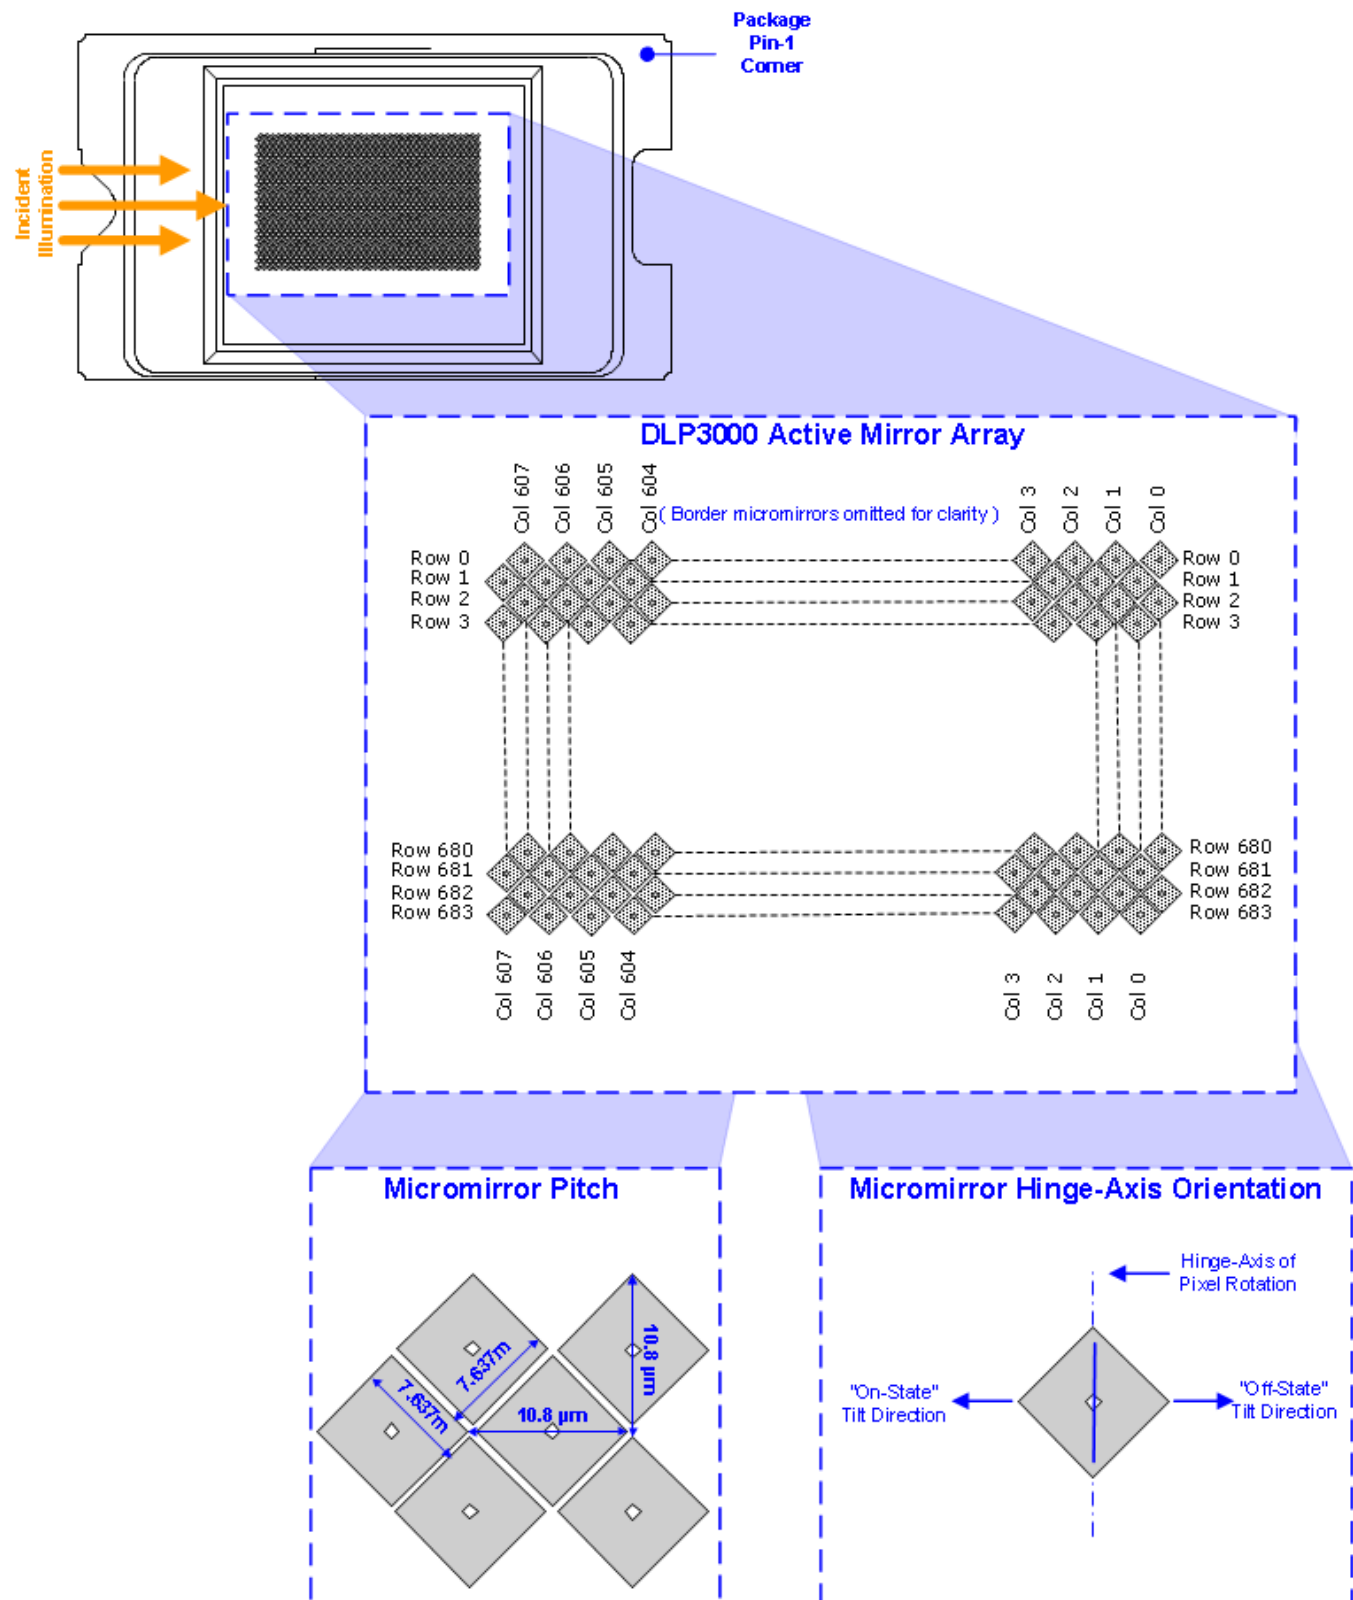
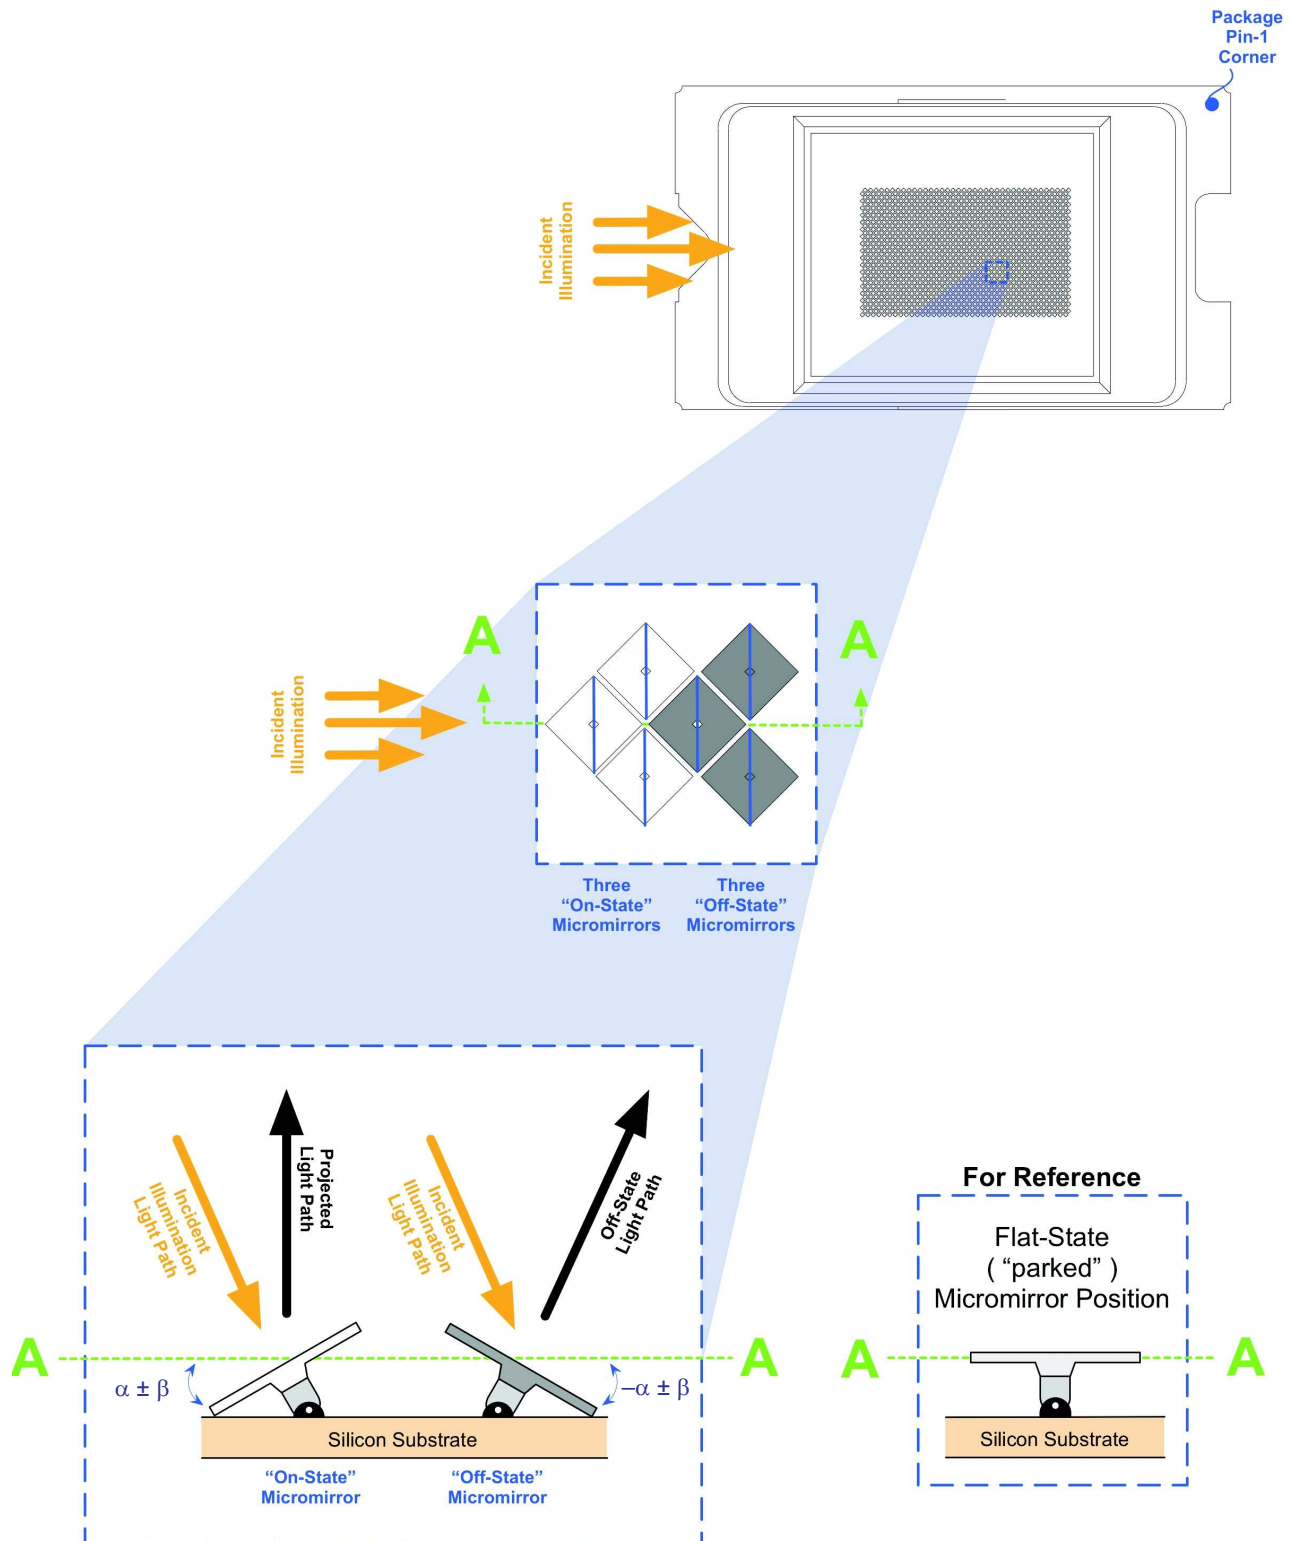

Figure 9. Micromirror Array, Pitch, and Hinge-Axis Orientation
Figure 10. Micromirror Landed Positions and Light Paths
(4) The mirrors that form the array border are hard-wired to tilt in the –12° (off) direction once power is applied to the DMD (see Figure 9 and Figure 10).
The DLP3000 is a 0.3 inch diagonal spatial light modulator which consists of an array of highly reflective aluminum micromirrors. Pixel array size and diamond grid pixel arrangement are shown in Figure 9. The DMD is an electrical input, optical output micro-electrical-mechanical system (MEMS). The electrical interface is Double Data Rate (DDR) input data bus.
Optically, the DLP3000 consists of 415872 highly-reflective, digitally-switchable, micrometer-sized mirrors (micromirrors) organized in a 2-D array. The micromirror array consists of 608 micromirror columns by 684 micromirror rows in diamond pixel configuration (Figure 9). Due to the diamond pixel configuration, the columns of each odd row are offset by half a pixel from the columns of the even row.
Each aluminum micromirror is approximately 7.6 microns in size (see *Micromirror Pitch* in Figure 9) and is switchable between two discrete angular positions: -12° and $+12^\circ$. The angular positions are measured relative to a 0° flat reference when the mirrors are parked in their inactive state, parallel to the array plane (see Figure 10). The tilt direction is perpendicular to the hinge-axis. The on-state landed position is directed toward the left side of the package (see *DLP3000 Active Mirror Array*, *Micromirror Pitch*, and *Micromirror Hinge-Axis Orientation* in Figure 9).